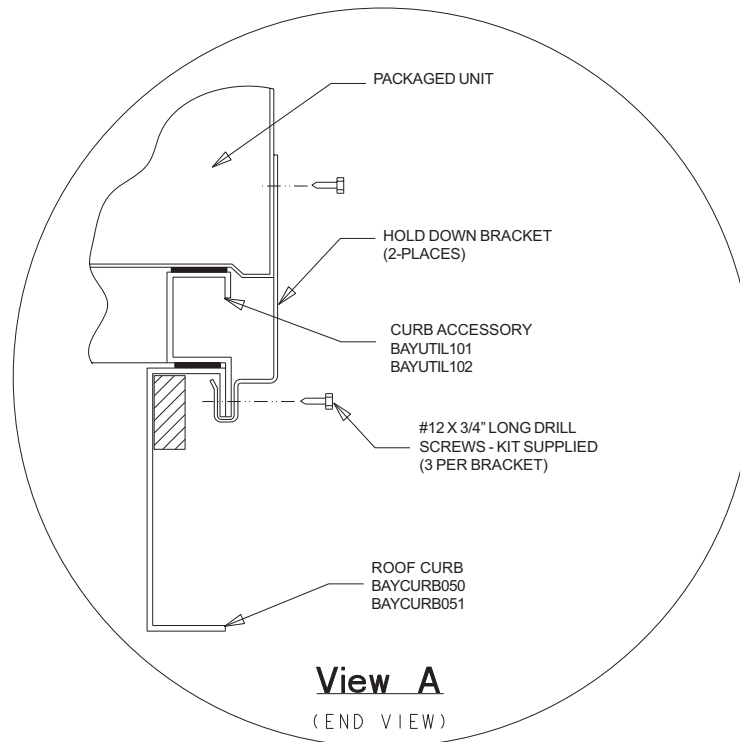

Figure 5. Hold Down Brackets
The two (2) Hold Down Brackets (packed with the extension) are used to secure the unit to the roof curb, see Figure 5 (page 5). Each bracket is secured with four (4) screws, one (1) existing on the unit, the other three (3) shipped with the extension.